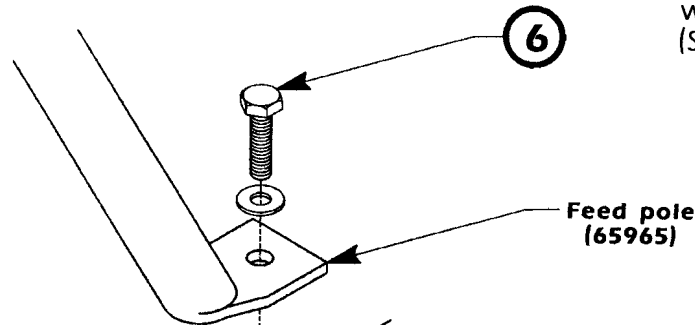

FIG. 28
2. Attach the feed poles to the ribs using four $\frac{1}{4}$ " x 1" bolts, eight $\frac{1}{4}$ " flat washers, and four $\frac{1}{4}$ " nuts. Do not tighten. (See Fig. 28)